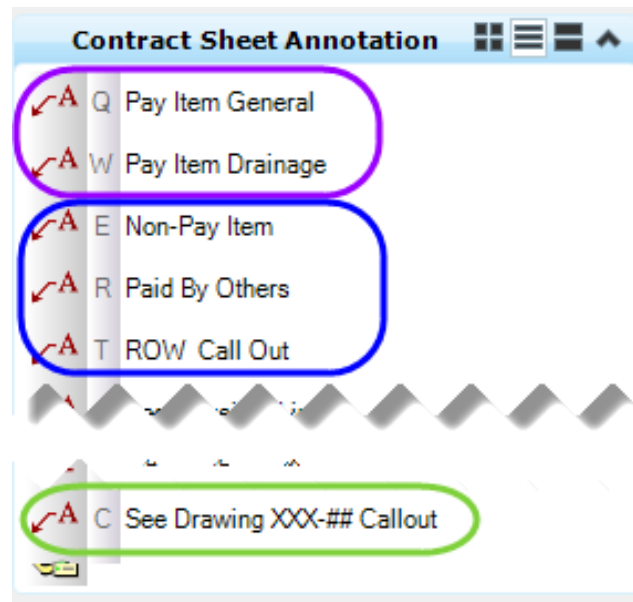

Figure 67 - Call Outs
There are three (3) different types of call outs for cut sheets, they cover **Pay Item General & Pay Item Drainage, Non-Pay Item & Paid by Others & ROW Call Out** and **See Drawing XXX-## Call Out**. Each call out is used specific to its name and has a task associated with it, see Figure 67.